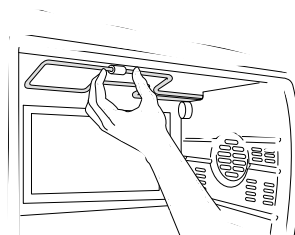

fig. 14
**IMPORTANT:** after cleaning, reposition and reattach the electrical element (fig. 14). **The oven must be not used with the element in the lowered positioned.**